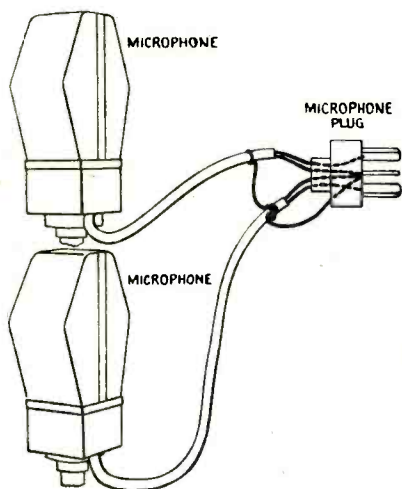

Fig. 3. Connections for two-microphone operation.
(3) Connect the two microphones in series to the microphone plug, as shown in Fig. 3.